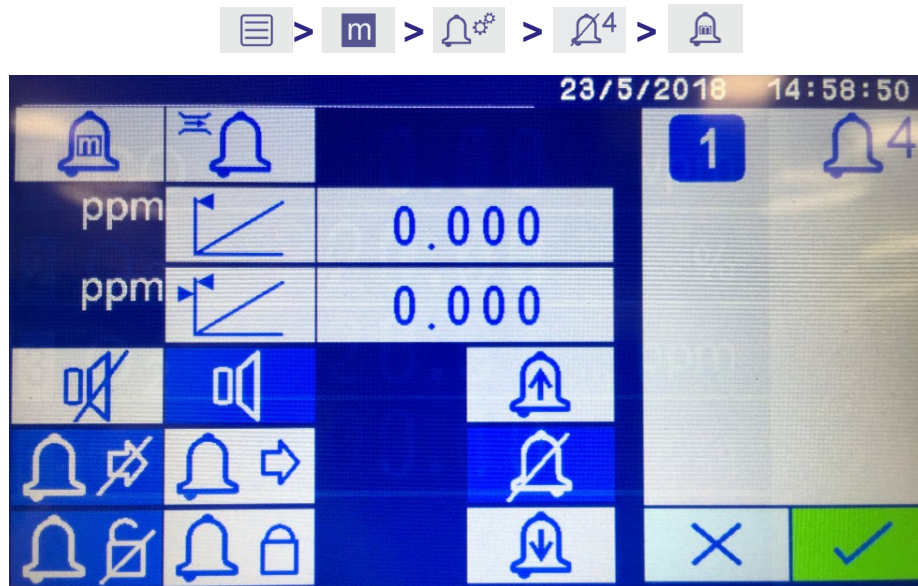

Figure 7-8: Measurement Alarm setup screen for Transducer #1 and Alarm #4
2. The Alarm setup screen for the selected alarm is displayed. Figure 7-8 shows Alarm #4  configured for a Measurement Alarm on Transducer #1 .
In Figure 7-8 the following alarms have been set or deactivated: Audible alarm is on , Do Not Follow  is on, Do Not Latch  is on and no Measurement value alarm (Hi or Lo)  has been selected.
Note: Figure 7-8 and Figure 7-9 show examples of the different options available for specific transducers or system.